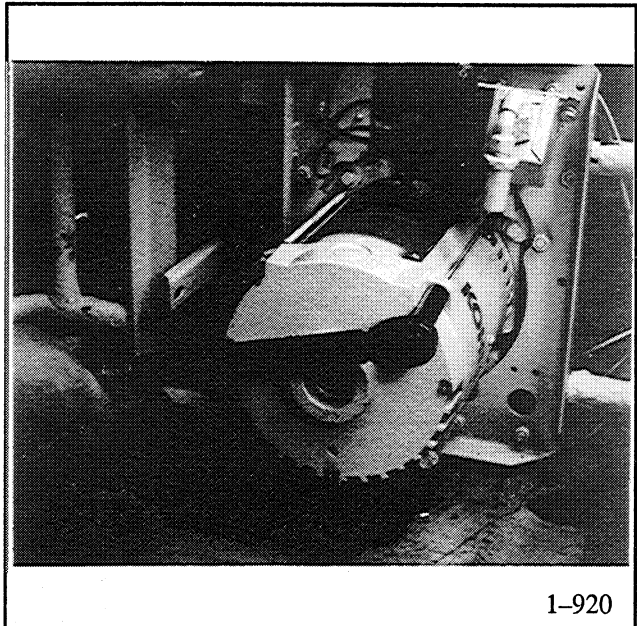

Figure 5-16. Tightening Overbolts
6. Install overbolts and torque to 70 in. lbs. (7.9 Nm), see Figure 5-16. Stator shell must be tight against engine and end bracket.